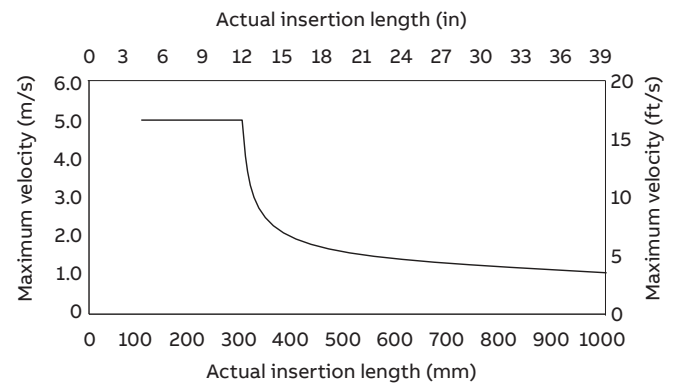

Figure 2 Maximum allowable velocity for different insertion lengths
The maximum velocity depends upon the actual insertion length. Typical insertion lengths are 0.125 and 0.5 x pipe diameter. Figure 2 is a guide* to the maximum allowable velocity for different insertion lengths.
* Figure 2 is intended as a guide only. Factors that influence the maximum insertion length into the pipe include: flow sensor mounting components (for example, standoffs, bushes and valves) pipeline vibration, fluid vibration and pump noise.